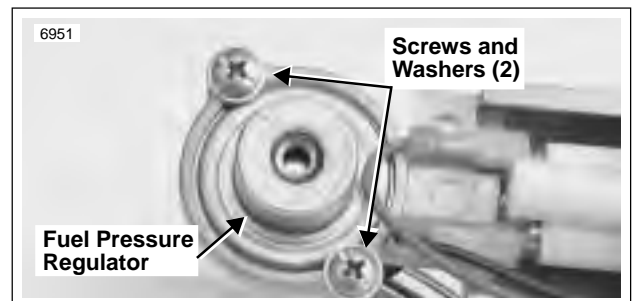

Figure 4-91. Fuel Pressure Regulator
2. See Figure 4-91. Remove two screws and washers holding fuel pressure regulator in place. Detach regulator from pump housing.